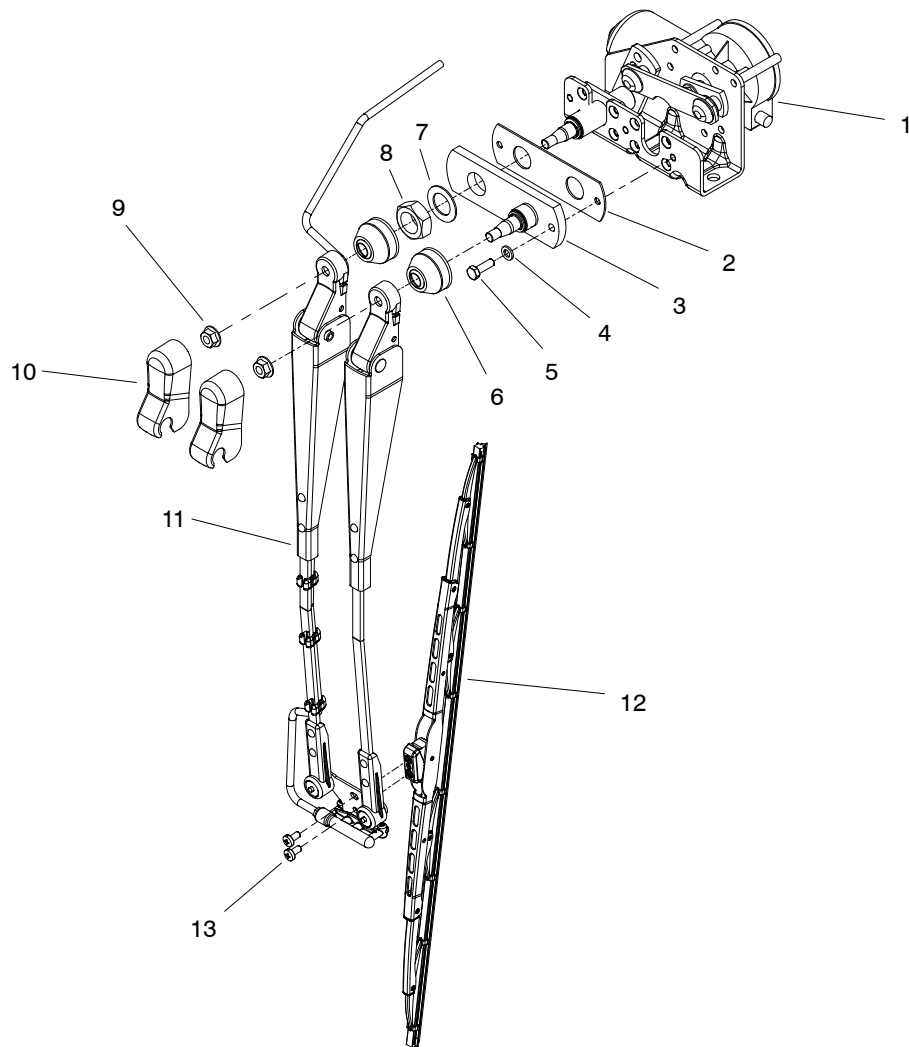

Figure 9
### **Disassembly (Fig. 9)**
3. Remove windshield wiper components as needed using Figure 9 as a guide.
### **Assembly (Fig. 9)**
1. Assemble windshield wiper components using Figure 9 as a guide.